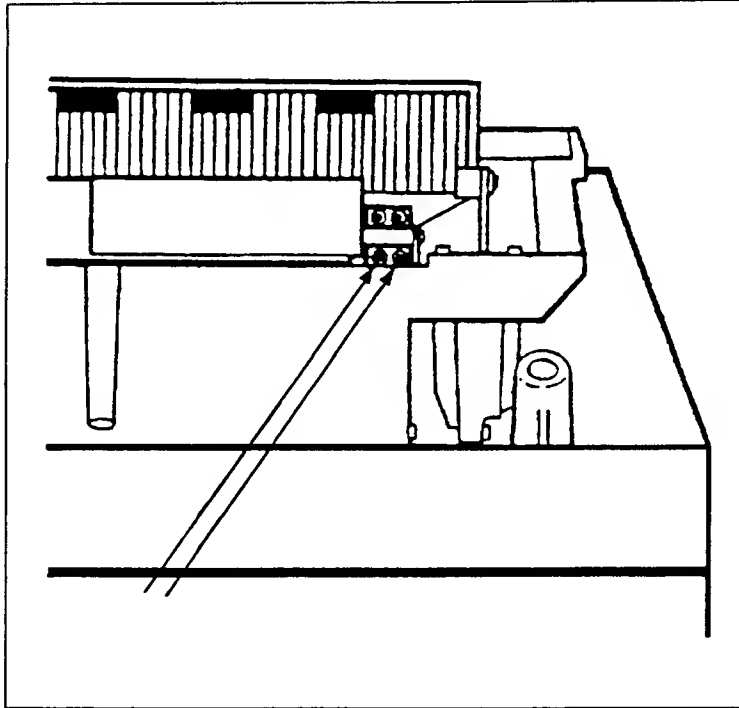

Figure 6-23. Lower Crank Arm Screws
- e. Remove the two screws (3mm socket cap screws) and the flat plate which secure the end of the lower crank arm to the print mechanism (Figure 6-23).
- e. Attach the lower crank arm to the counter weight using the flat plate and two screws, but do not tighten the screws at this time (see Figure 6-23).